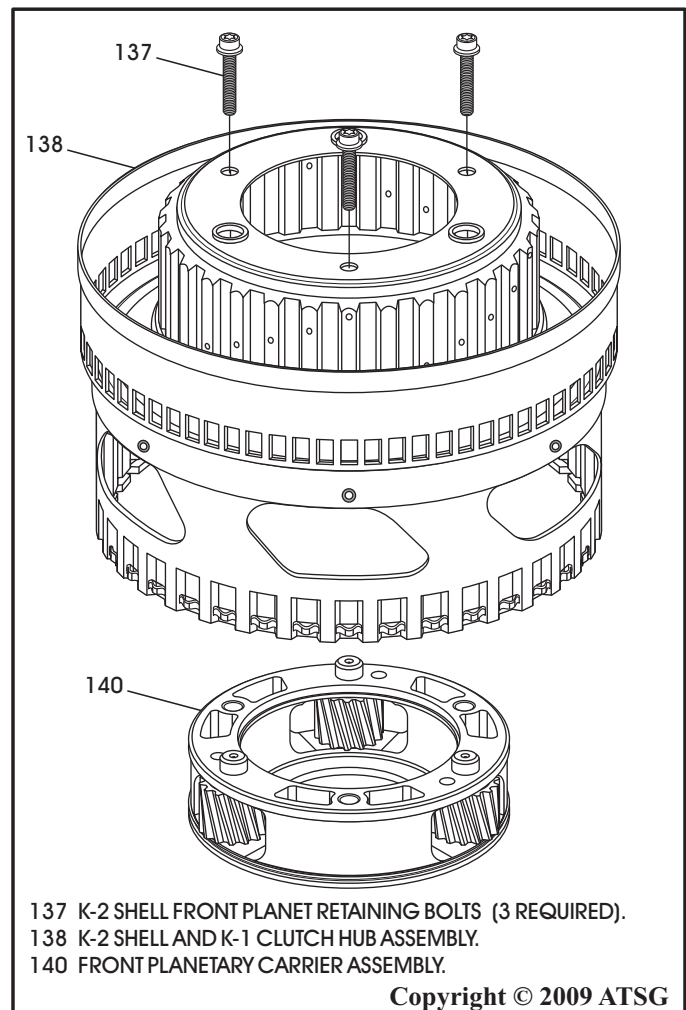

Figure 113
- 29. Install the front planetary carrier back into the K-2 shell, as shown in Figure 113.
- 30. Install the three retaining bolts, as shown in Figure 113.